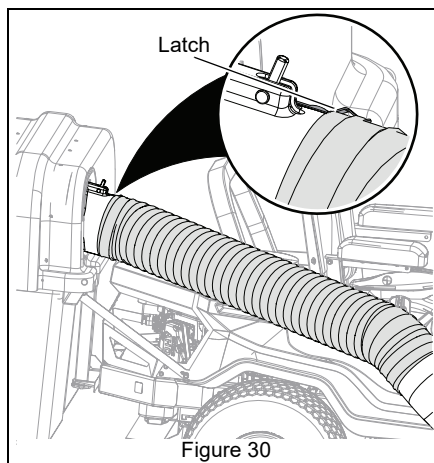

Figure 30
See Figure 30.
1. Release thumb latch retaining hose to hood assembly and remove hose from hood assembly and blower adapter. See Figure 30.